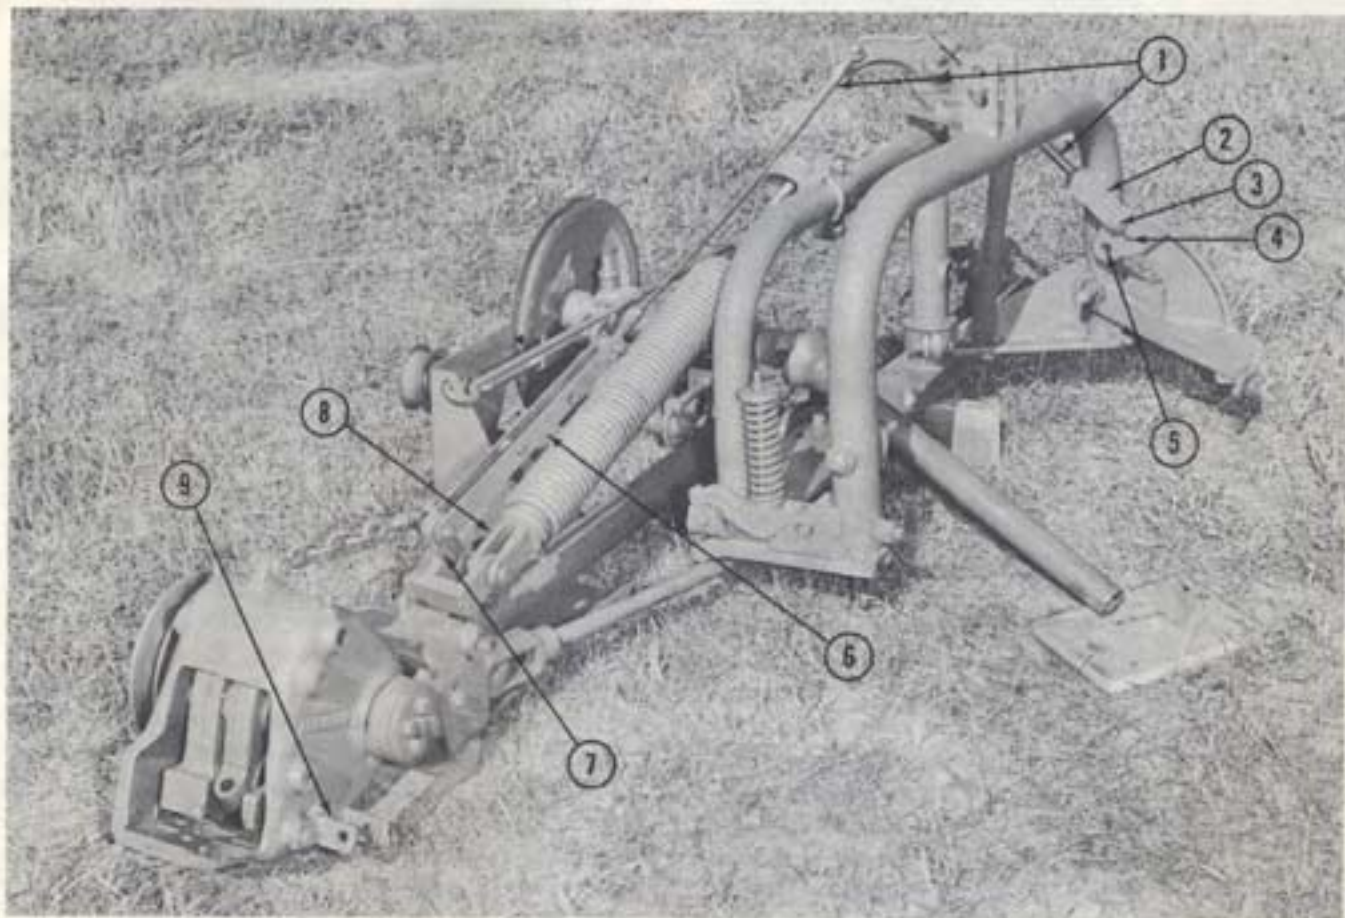

Fig. 59 Installation of Lift Assembly
13. Attach the lift cable assembly (No. 1, Fig. 59) to the stud welded to the bracket at the left
rear of the lift frame (No. 2, Fig. 57). Use the nut, plain washer, and lockwasher provided. Attach the forward clevis end (No. 2, Fig. 59) to the appropriate hole in the lift arm assembly by means of a clevis pin and lock with a cotter pin. The clevis pin (No. 3, Fig. 59) is attached in the correct position for all models of the TO 35 Tractor and for the standard clearance MF 50 Tractor. Use the hole No. 4 for all models of the MF 65 Tractor and the high clearance MF 50. Use hole No. 5 for all models of the MF 85 Tractor.
NOTE: The holes in the lift arm are marked with the letters A, B, and C indented on the outside of the arm (the reverse side to that shown in Fig. 59).
The rear right end of the lift cable attaches by means of trunnions and lift links (No. 6, Fig. 59) to the center arm on the bellcrank (No. 7, Fig. 59). Two trunnions are provided; one is threaded
and one is non-threaded. Fig. 59 shows the link assembly with the trunnions in the correct position for the 72 inch wheel setting. In the 72 inch wheel setting position, the threaded trunnion is placed with the cable attached, in the holes at the far left of the link (looking from the rear). The non-threaded trunnion is retained in the holes at the far right. For the 52 inch spacing the non-threaded trunnion is first slipped onto the cable and then placed in the holes at the far left of the links where it is used as a guide. The cable is attached to the threaded trunnion which is placed in the far right position in the links. For further information and for details of the 62-66 inch tread width position, refer to the diagram Fig. 9.
14. Attach the clevis end of the counterbalance spring to the forward arm of the mounting bracket (bellcrank): use a clevis pin and cotter pin (No. 8, Fig. 59). Take the long $\frac{5}{8}$ inch adjusting bolt and with the cup washer and "jam" nut mounted on the shank, place it through the mounting bracket and screw it into the counterbalance